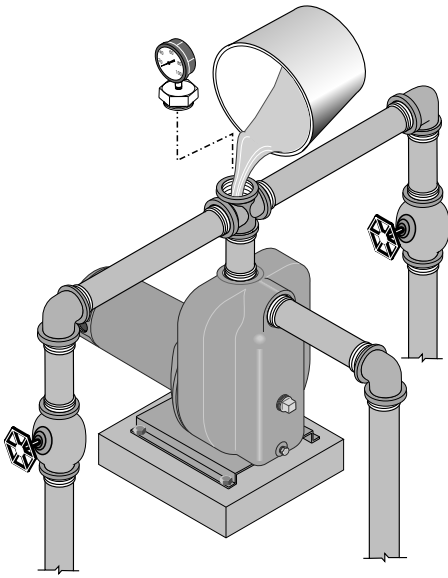

Figure 13 – Remove Priming Plug. Fill Pump Before Starting
- Step 1. Remove priming plug (Figure 13). Replacing the priming plug with a reducer bushing with a pressure gauge mounted in it will make troubleshooting pump performance easier.
- Step 3. Fill pump and suction pipe with water (Figure 13).